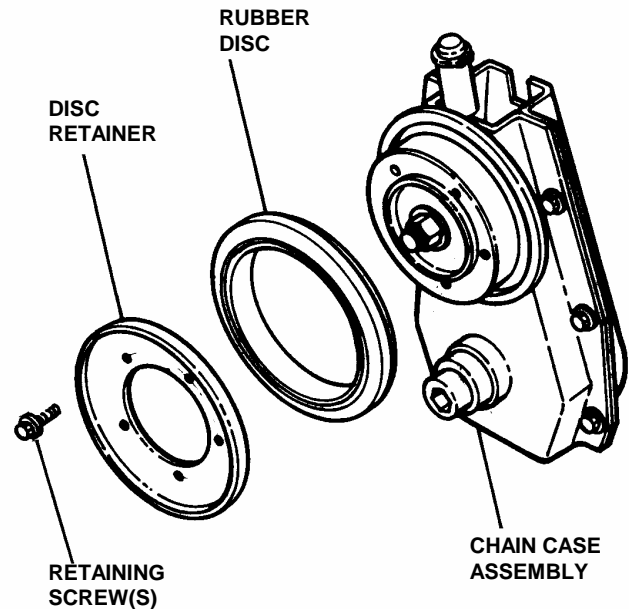

FIGURE 4.14
2. Remove the five bolts that secure rubber drive disc to the drive hub. Remove drive tire. See Figure 4.14.
3. Install new rubber drive disc. Reinstall the five bolts. Torque to 25 to 40 in. lbs. See Figure 4.14.